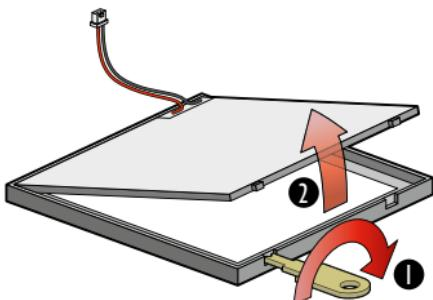

fig. 2
- 4. You can fill out the provided blank namecard and add it to the nameplate. Carefully open the nameplate with a small screwdriver or with the key provided (fig. 2).